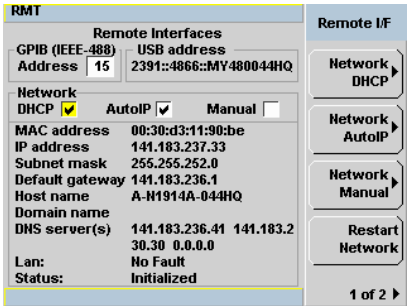

Figure 1-2 Typical LAN Remote Interface
- 3 Press , **Remote Interfaces** to display the Remote Interface display (see Figure 1-2). Ensure that AutoIP is checked.
- 2 Press , **Remote Interfaces** to display the Remote Interface display (see Figure 1-2).